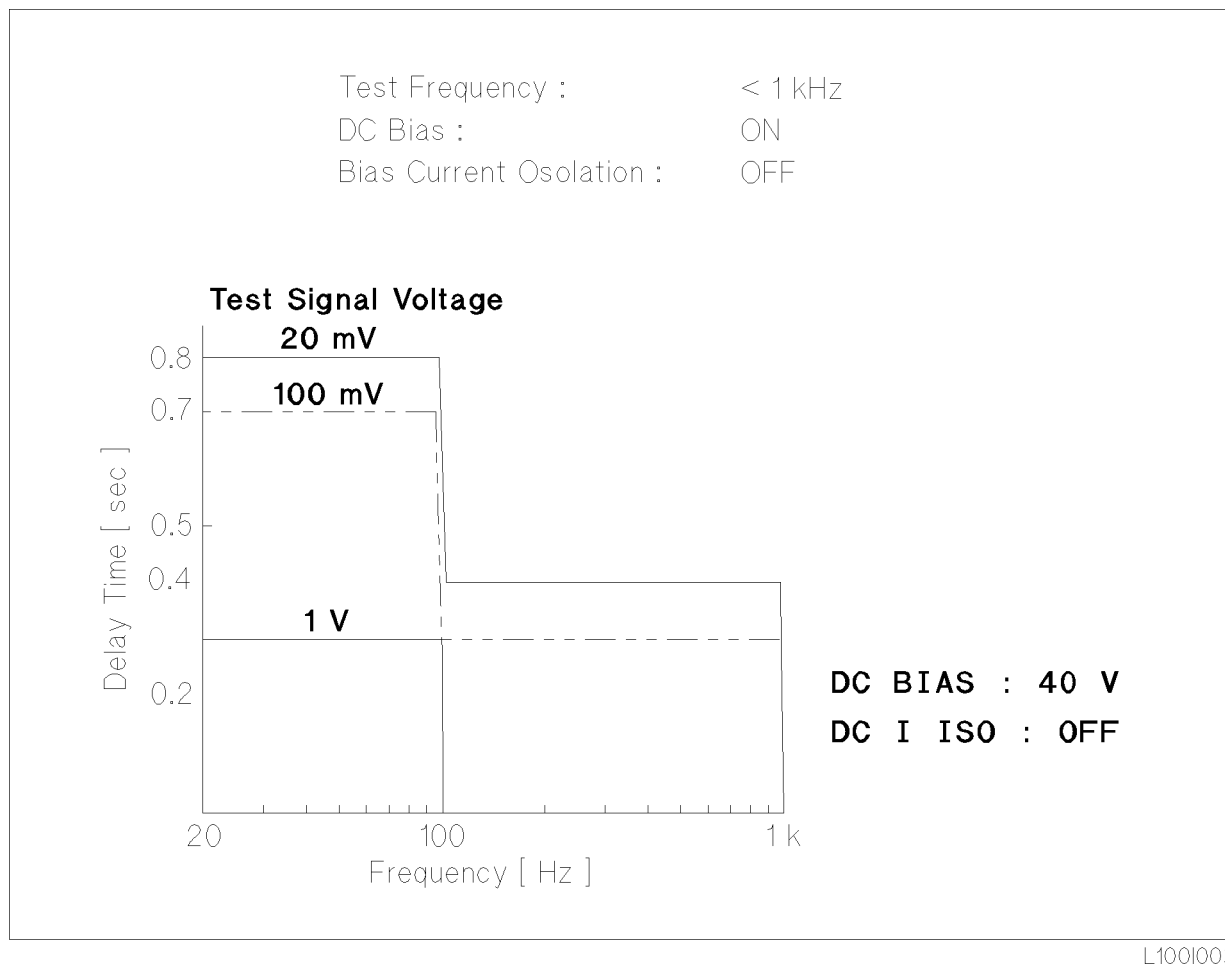

Figure G-2. Required Delay Time After Changing the Measurement Range (2)
2. After changing the measurement range under the following conditions, use the appropriate delay times as shown in Figure G-2.